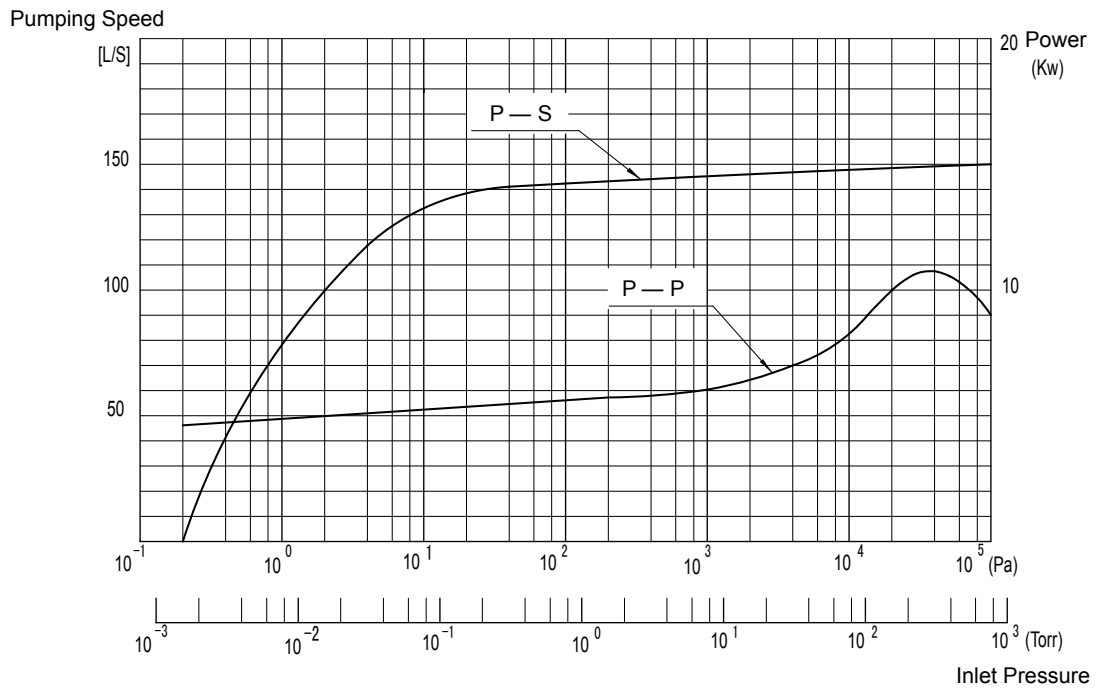

Fig. 3 Curve of pumping speed and power consumption versus inlet pressure for HGL-150
- (2) Curve of pumping speed and power consumption versus inlet pressure for HGL-150 (refer to figure3);